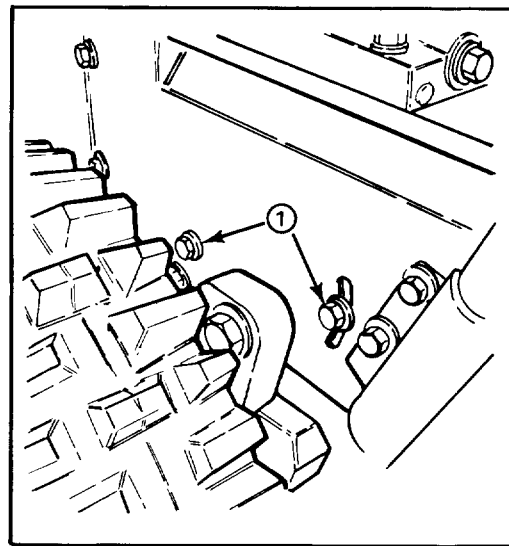

Figure 27
3. Loosen (4) flange head capscrews (2 each side) securing transmission frame to engine frame (Fig. 27).